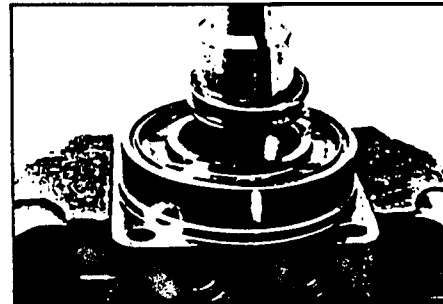

Figure 30
22. If the bearings, bushing or thrust washers must be replaced use a suitable size bearing puller to remove bearing/bushings (19) and (13) from housing (18) without damaging the housing. Remove thrust washers (14) and thrust bearing (15) if they were previously retained in the housing by bearing (13). SEE FIGURES 30 & 31.